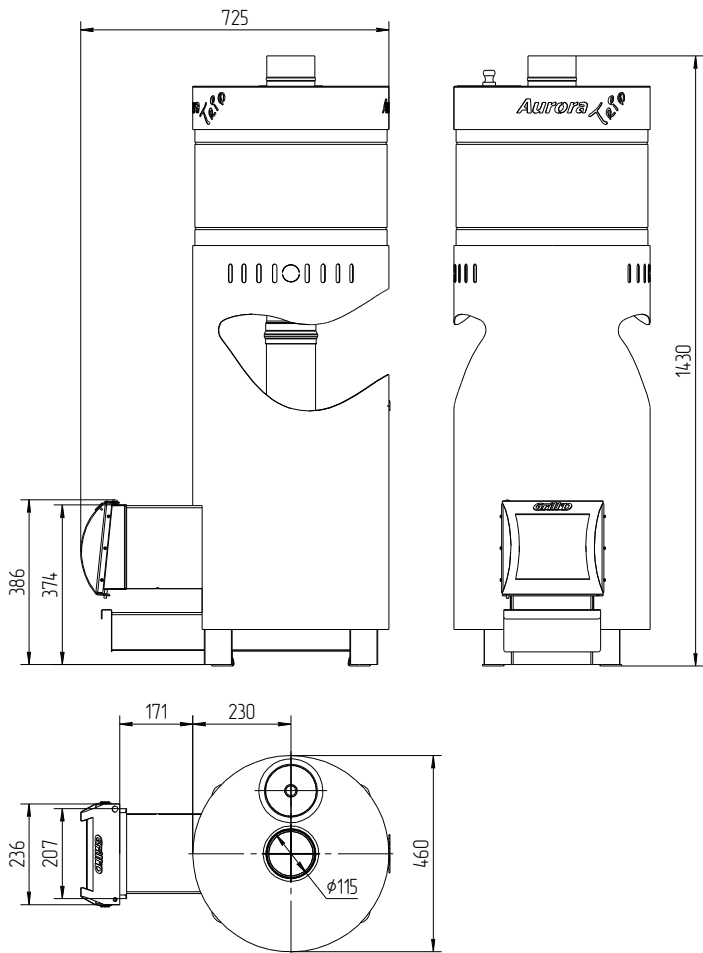

Fig. 2 *Dimensions of heater Grill'D Aurora 160 Trio Long*
Overall view and location of the heater main elements are shown in Figure 2. Heater firebox (6) is fabricated of high duty rolled steel. Use of such steel increases the heater's durability and service life taking into account the firebox wall thickness of 3 mm, while the most critical elements are made of 5 mm thick steel.